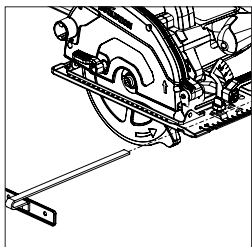

**Fig. 7**
**Note:** The outer drive flange has a specially machined bore which incorporates two opposed 'flats' **(Fig. 7)** These 'flats' engage with two complimentary 'flats' machined into the machines arbor shaft.